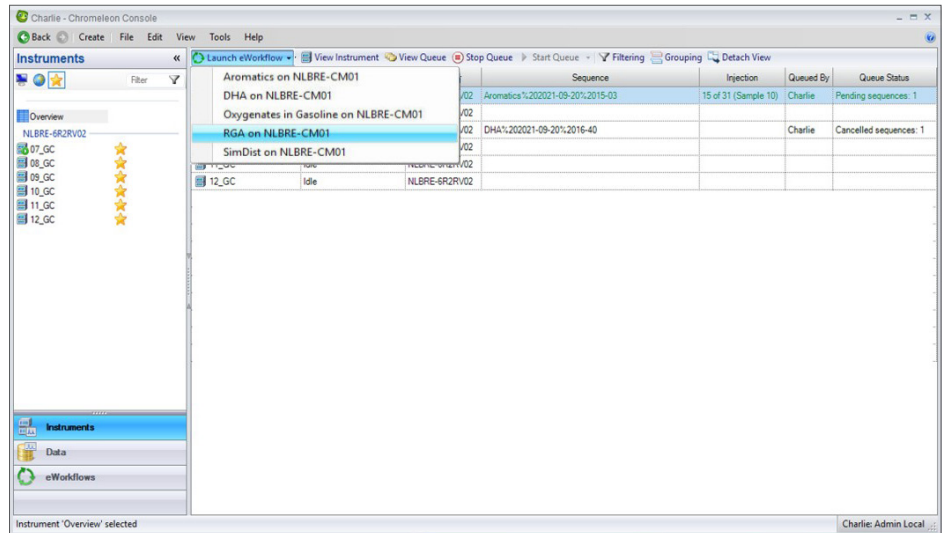

Figure 3. Select Method
1. Select the analysis method to run (Figure 3)